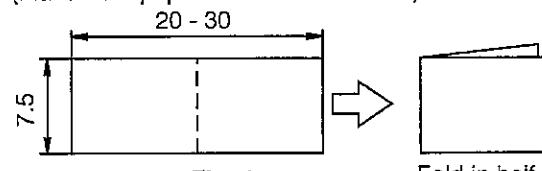

Fig. 4.
(4) From the front side of the mechanism, while pushing the DOWN switch and the Tu lock release lever in the direction of the arrow in Fig. 5, for example with a slotted screwdriver, insert the thick paper (about 0.5mm thick) shown in Fig. 4 from the rear side of the mechanism as shown in Fig. 5, then release the DOWN switch and the Tu lock release lever (do this in such a way that the switch will come ON). At this time, be careful not to deform the Tu lock release lever.
(5) After releasing the Tu lock release lever, confirm that the Tu reel base rotates smoothly in both directions.